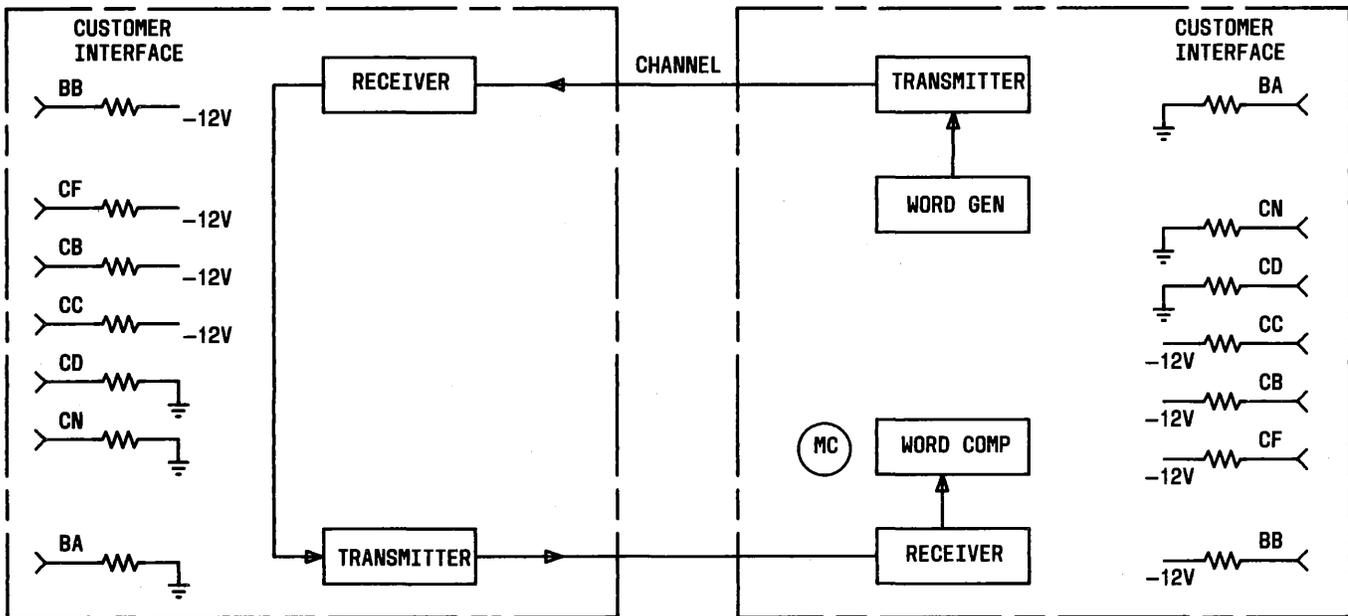

Fig. 6—Digital Loopback Self Test—Simplified Block Diagram
- (3) Release AL and ST switches.
4.04 This test checks the transmitter and receiver of a local and a distant data set and the facilities connecting the data sets (Fig. 6). The customer interfaces are not checked. Test data generated and transmitted by the local data set is looped back internally from the receiver output to